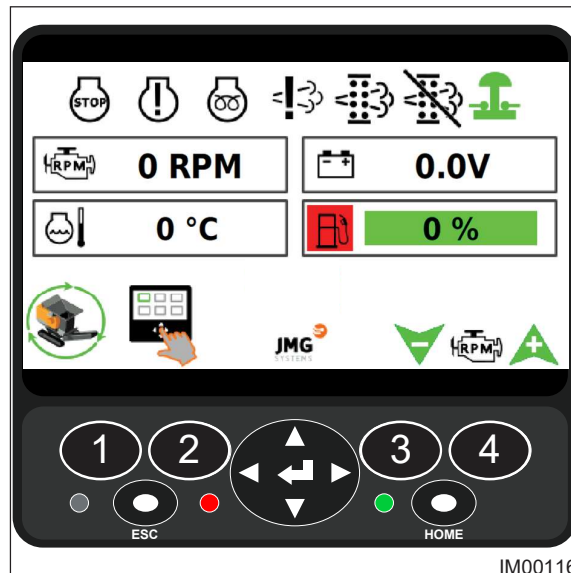

Fig: 8.1 - Home Screen
4. On the home screen (Fig: 8.1), press the Machine Operating button (Item 1).